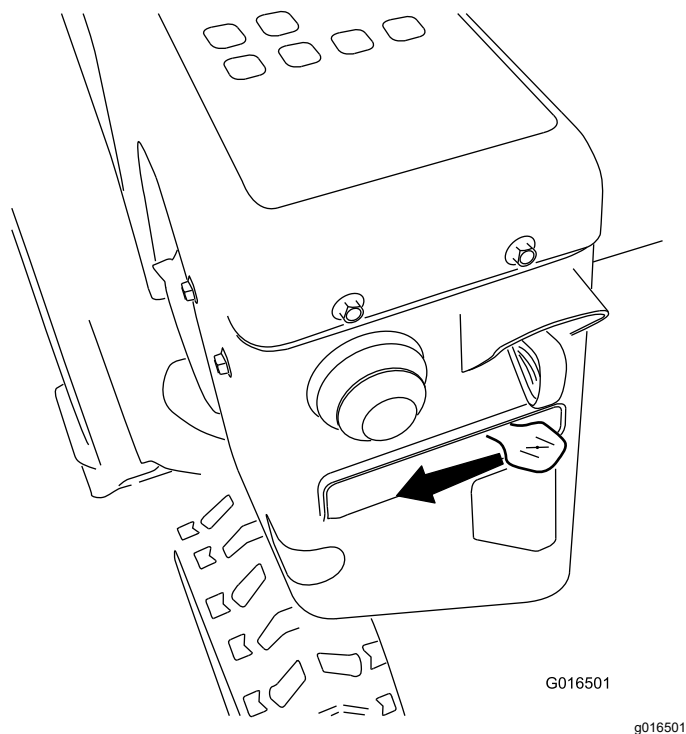

Figure 18
5. Move the choke to the CHOKE position (Figure 18).